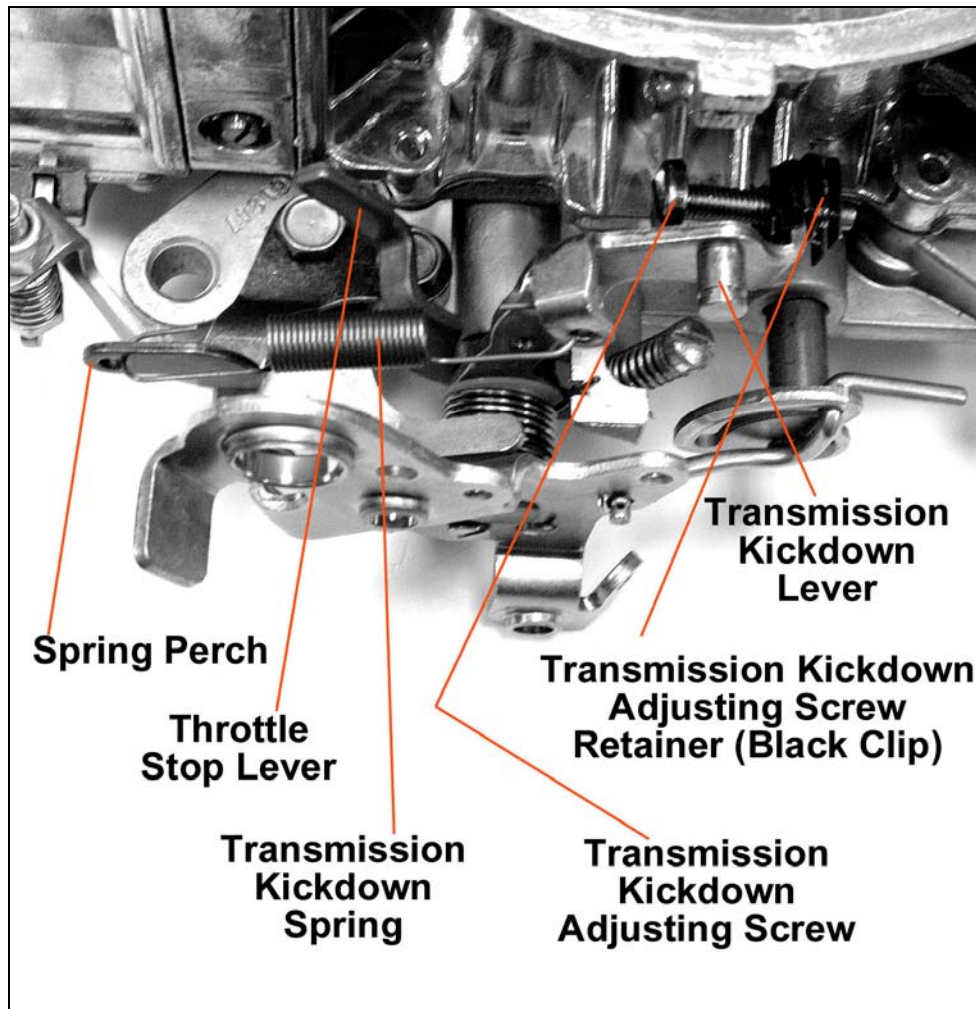
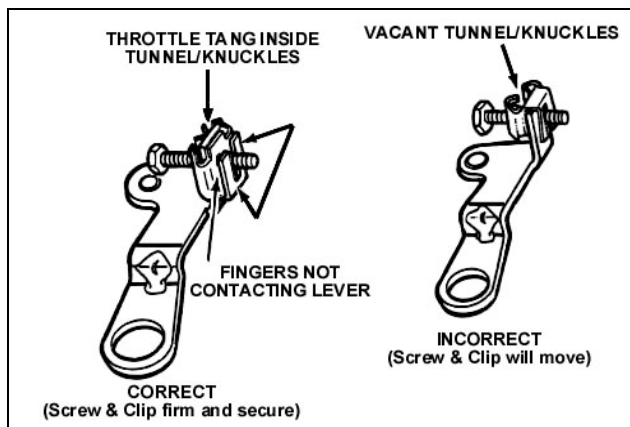

Figure 2—Ford applications
Figure 3—Ford applications
2. Insert the transmission kickdown screw with the black retaining clip on the transmission kickdown lever (Figure 2). This assembly must be installed according to the detailed drawing (Figure 3).
- Install the transmission kickdown spring between the transmission kickdown lever and spring perch on the solenoid/dashpot bracket (Figure 2).